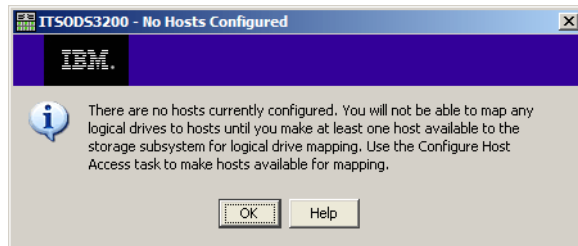

Figure 20-17 No Hosts Configured message
2. Click the **Create Arrays and Logical Drives** option. Click **OK** if presented with the message shown in Figure 20-17. The host is configured after the boot logical drive setup is completed.